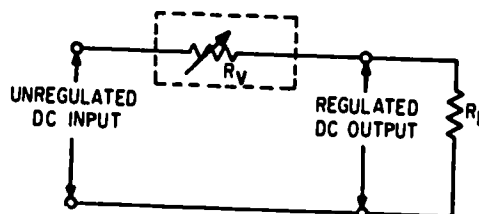
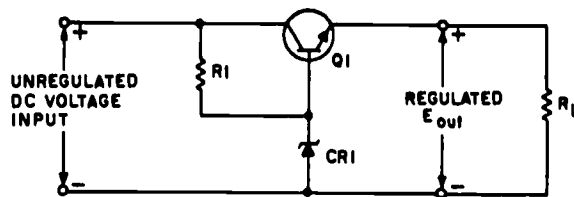

Fig 4-32. Series voltage regulator.
Fig 4-34. Series voltage regulator.
The schematic drawing in view (A) is that of a shunt-type regulator. It is called a shunt-type regulator because the regulating device is connected in parallel with the load resistance. The schematic drawing in view (B) is that of a series regulator. It is called a series regulator because the regulating device is connected in series with the load resistance. Figure 4-32 illustrates the principle of series voltage regulation. As you study the figure, notice that the regulator is in series with the load resistance (R_L) and that the fixed resistor (R_s) is in series with the load resistance.
The schematic for a typical series voltage regulator is shown in figure 4-34. Notice that this regulator has a transistor (Q1) in the place of the variable resistor found in figure 4-32. Because the total load current passes through this transistor, it is sometimes called a "pass transistor." Other components which make up the circuit are the current limiting resistor (R1) and the Zener diode (CR1).